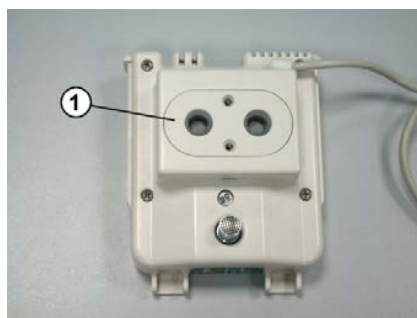

Fig. 21 Sensor module: backing plate
- 19** Insert the backing plate (Fig. 21/1) with the oxygen sensors into the sensor module.